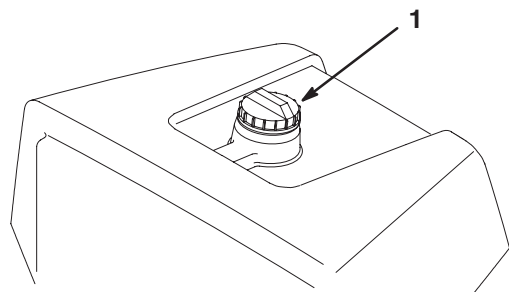

Figure 15
1. Clean around the fuel tank cap and remove the cap (Fig. 15). Add unleaded regular gasoline to the fuel tank until the level is 1 in. (25 mm) below the bottom of the filler neck. This space in the tank allows gasoline to expand. Do not fill the fuel tank completely full.